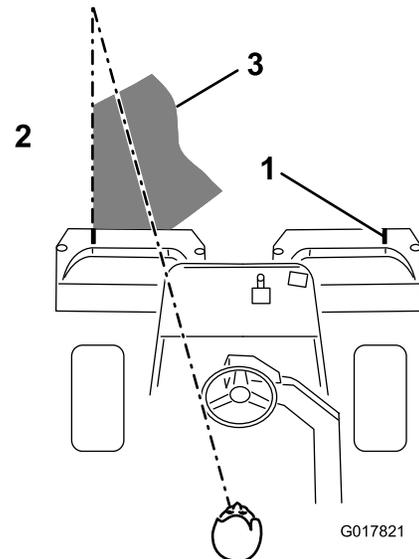

Figure 38
3. Overlap a minimal amount with the previous cut on return passes. To assist in maintaining a straight line across the green and keep the machine an equal distance from the edge of the previous cut, establish an imaginary sight line approximately 1.8 to 3 m (6 to 10 ft) ahead of the machine to the edge of the uncut portion of the green (Figure 38). Some find it useful to
include the outer edge of the steering wheel as part of the sight line; i.e. keep the steering wheel edge aligned with a point that is always kept the same distance away from the front of the machine (Figure 38).